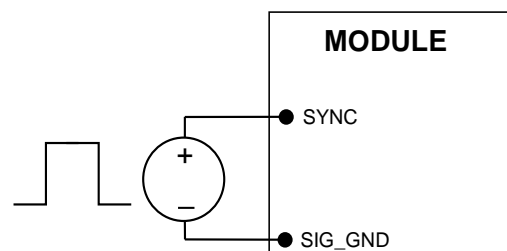

Figure 35. External source connections to synchronize switching frequency of the module.
The module switching frequency is capable of being synchronized to an external signal frequency within a specified range. Synchronization is done by using the external signal applied to the SYNC pin of the module as shown in Fig. 35, with the converter being synchronized by the rising edge of the external signal. The Electrical Specifications table specifies the requirements of the external SYNC signal. If the SYNC pin is not used, the module should free run at the default switching frequency.
1. By allowing the user to select among several pre-tuned compensation choices to select the one most suited to the transient response needs of the load. This selection is made via a resistor R_{TUNE} connected between the $RTUNE$ and SIG_GND pins as shown in Fig. 35. Table 2 shows various pre-tuned compensation combinations recommended for various external capacitor combinations.